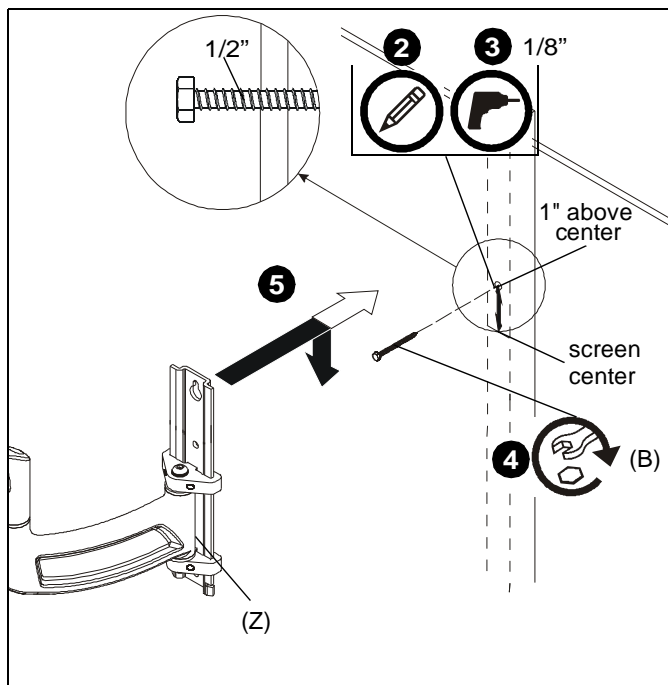

Figure 1
2. Measure 1" above desired center line of display and mark a hole at desired mounting location on the center of wood stud. (See Figure 1)
3. Drill one 1/8" diameter hole at location marked in Step 2 with a depth of 1 3/4". (See Figure 1)
4. Install one 1/4 x 2 1/2" lag bolt (B) into hole, leaving screw hanging out 1/2" from the wall. (See Figure 1)
5. Hang arm assembly (Z) onto lag bolt (B) by latching key-shaped hole over top of bolt. (See Figure 1)